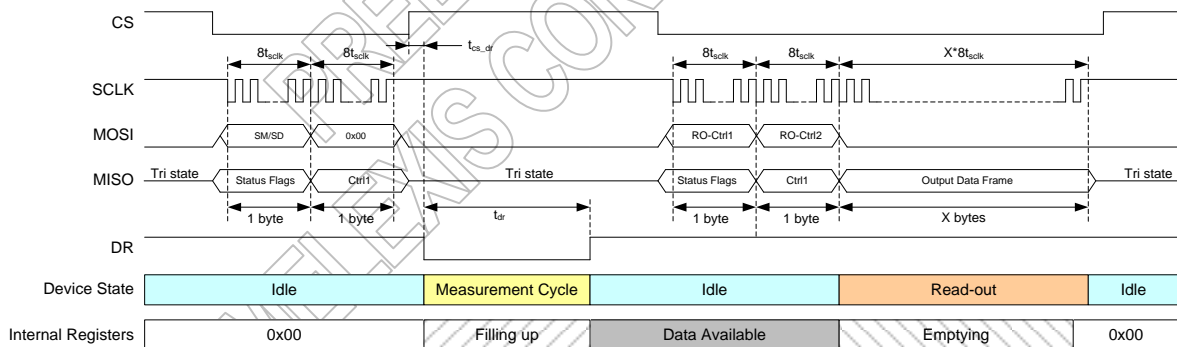

Figure 9 : Separated SM - RO (X value is defined in Figure 6)
- Figure 9 : Separated SM - RO (X value is defined in Figure 6) shows the operation with separate SM and RO commands. After upload of a SM command, the measurement cycle will start and the internal registers will be filled. Once the DR pin is high, the RO command can be uploaded to start the read-out cycle. All data of the internal registers will be transferred and at the end of the read-out the registers will be cleared.